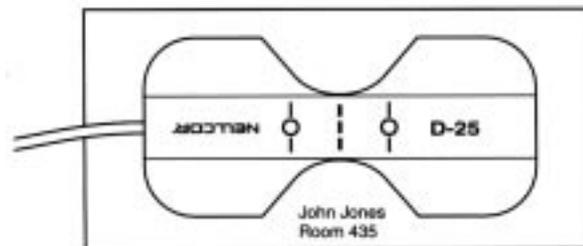

Figure 4
- If the sensor is removed between readings, store the sensor on a clean, dry surface, such as the original sensor liner, and label with the patient's name (Figure 4).